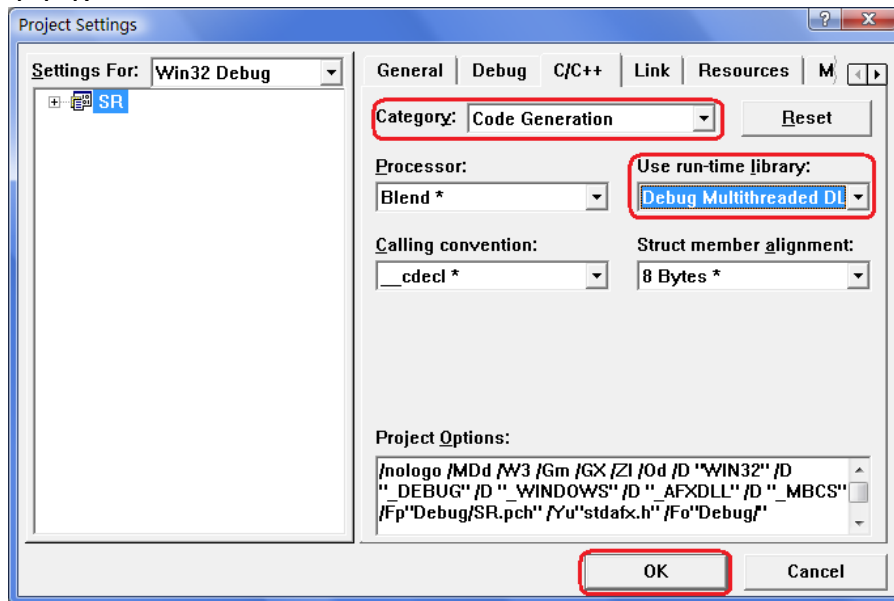

Figure 4-1-1
2. Choose Project→Settings→C/C++; select “Code Generation” in Category and “Debug Multithreaded DLL” in Use run-time library; click OK; as is shown in figure 4-1-1.